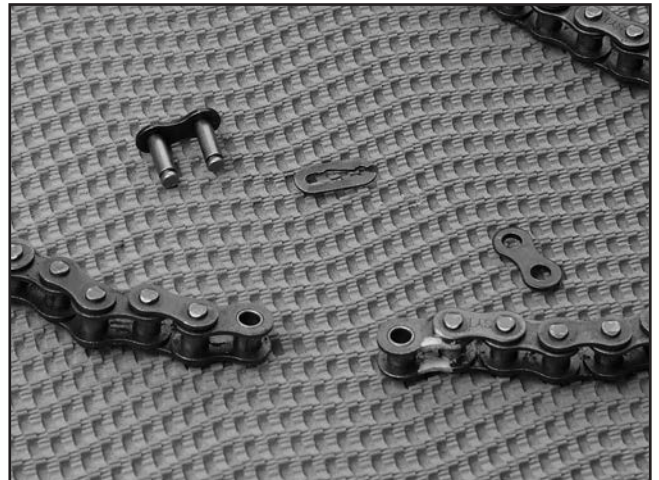

Figure 72. Chain removed from table by removing the master link.
13. Loosen the chain idler adjustment sprocket, carefully pull the chain off of all the sprockets, and remove it from the cabinet by undoing the chain master link, as shown in **Figure 72**.